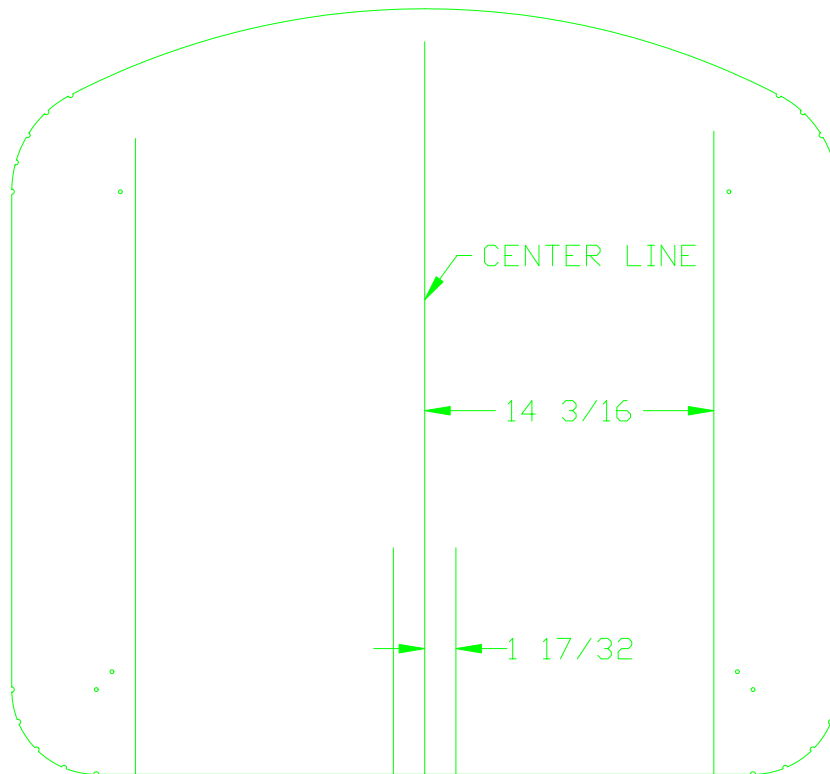

FIGURE 15
- 22) Lay the FUS-328 firewall flanges down on a work bench. Draw a vertical line down the center. Draw two parallel lines 14 3/16" to each side and two parallel lines 1 17/32" to each side. Turn the firewall over and draw a vertical center line on this side as well. Figure 15.